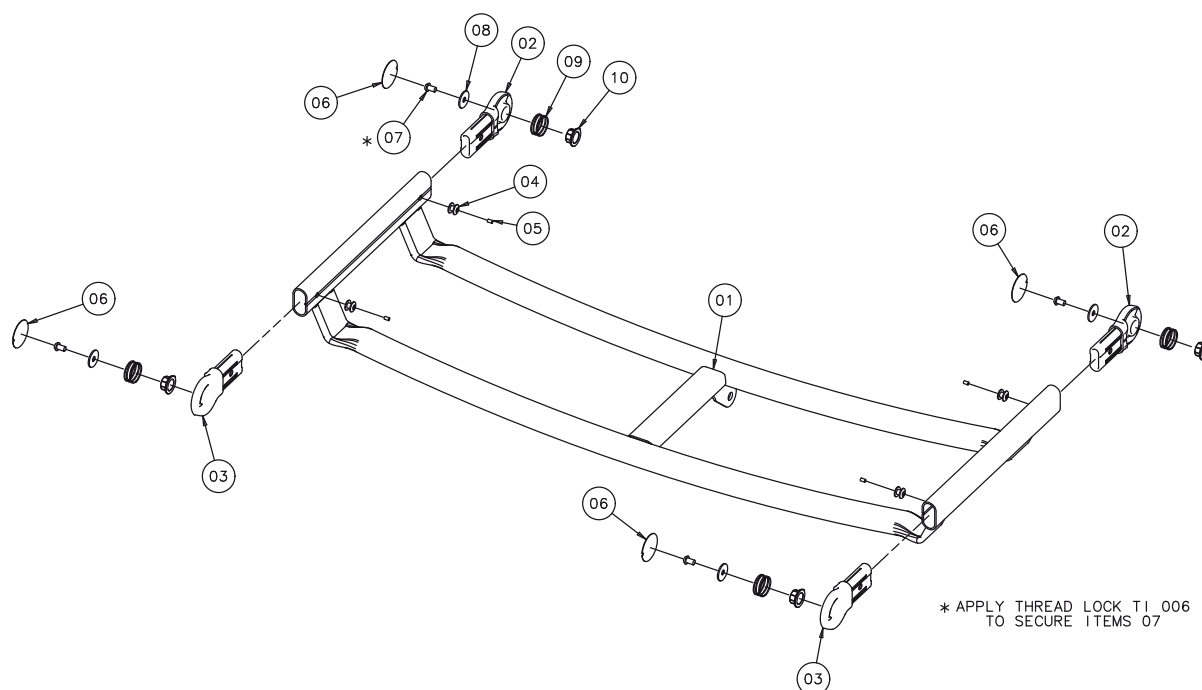

Figure 26: Thigh Section Assembly
This section describes how to replace the calf section and calf section stay. Reference is made throughout this section to Figure 24 on page 72 and Figure 26 on page 76.
- 26.1.3 Pry off and discard the hinge infill (Fig 26, Item 06) from the calf/thigh section hinges (Fig 24, Item 3)/(Fig 26, Item 2). Remove the socket head screws (Fig 26, Item 7) and collect the washers (Fig 26, Item 8). Do not allow the calf section to fall.
- 26.1.4 Slide the calf section (Fig 24, Item 1) sideways to disengage the hinges from the thigh section. Lift the calf section assembly off the bed. Collect the hinge springs (Fig 26, Item 9) and hinge bushes (Fig 26, Item 10) from the calf section hinges.
- 26.2.3 * Install two hinge bushes (Fig 26, Item 10) and hinge springs (Fig 26, Item 9) into the thigh half of the calf/thigh section hinges (Fig 26, Item 2).
- 26.2.4 Holding the calf section horizontal, assemble it to the thigh section by sliding it sideways to engage the two halves of each hinge. Fit the washers (Fig 26, Item 8) and the socket head screws (Fig 26, Item 7) to secure the sections together. Make sure the screws are properly tightened. Fit new hinge infills (Fig 26, Item 6) and (Fig 26, Item 11) to cover the screw heads.
This section describes how to replace the thigh section. Reference is made throughout this section to Figure 3 on page 29, Figure 4 on page 31 and Figure 26 on page 76.
- 27.1.3 Pry off and discard the hinge infills (Fig 26, Item 6) from the thigh/seat section hinges (Fig 26, Item 3)/(Fig 4, Item 15). Remove the two socket head screws (Fig 26, Item 7) and collect the washers (Fig 26, Item 8).
- 27.1.4 Slide the thigh section (Fig 26, Item 1) sideways to disengage the hinges from the seat section and lift it off the bed. Collect the hinge springs (Fig 26, Item 9) and hinge bushes (Fig 26, Item 10).
- 27.2.1 If previously removed, install the hinge bushes (Fig 26, Item 10) and the hinge springs (Fig 26, Item 9) on the thigh section hinges. Install the thigh section (Fig 26, Item 1) by lining up the hinges and sliding it sideways onto the seat section.
- 27.2.2 Secure the thigh section to the seat section with the washers (Fig 26, Item 8) and the socket head screws (Fig 26, Item 7). Make sure the screws are fully tightened. Fit the new hinge infills (Fig 26, Item 6) to cover the screw heads.